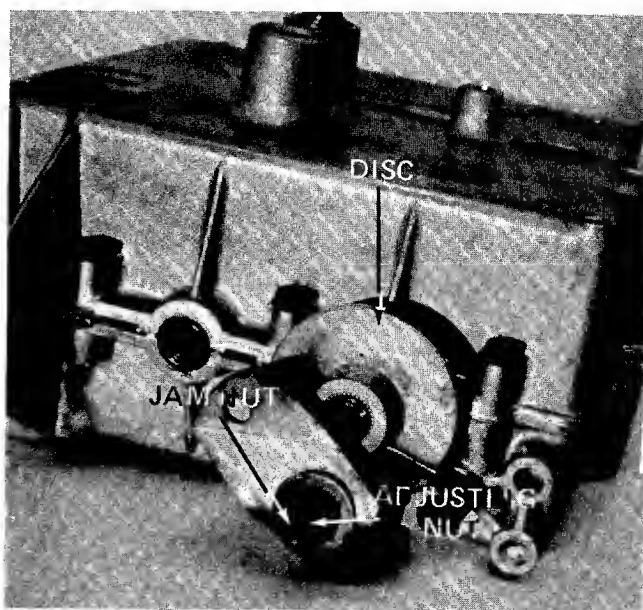

FIGURE 17.
1. Loosen the jam nut. See figure 17.